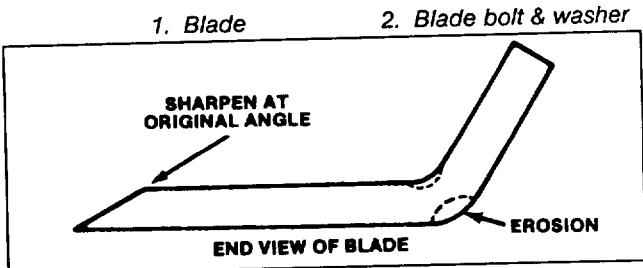

Figure 16
Check cutter blade every time rider is tipped on end. If bolt holding blade is loose, tighten it to 45-60 ft-lb. If blade or sail (Fig. 16) at end of blade is worn, eroded, or cracked, replace the blade. Replace the blade if it is bent or out-of-balance. Always use genuine TORO replacement blade to ensure safety and best performance. **NEVER USE A WILL-FIT REPLACEMENT BLADE.**
7. Using a file, sharpen cutting edge at both ends of the blade (Fig. 16).